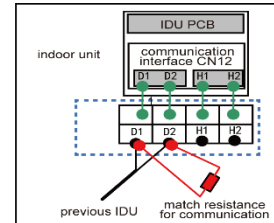

Fig. 5.3.2
- (4) Fix the communication cable with clamp of electric box.
- (5) For more reliable communication, make sure connect the terminal resistor to the most downstream IDU of the communication bus (terminal D1 and D2), as shown in fig 5.3.2, terminal resistor is provided with each ODU.